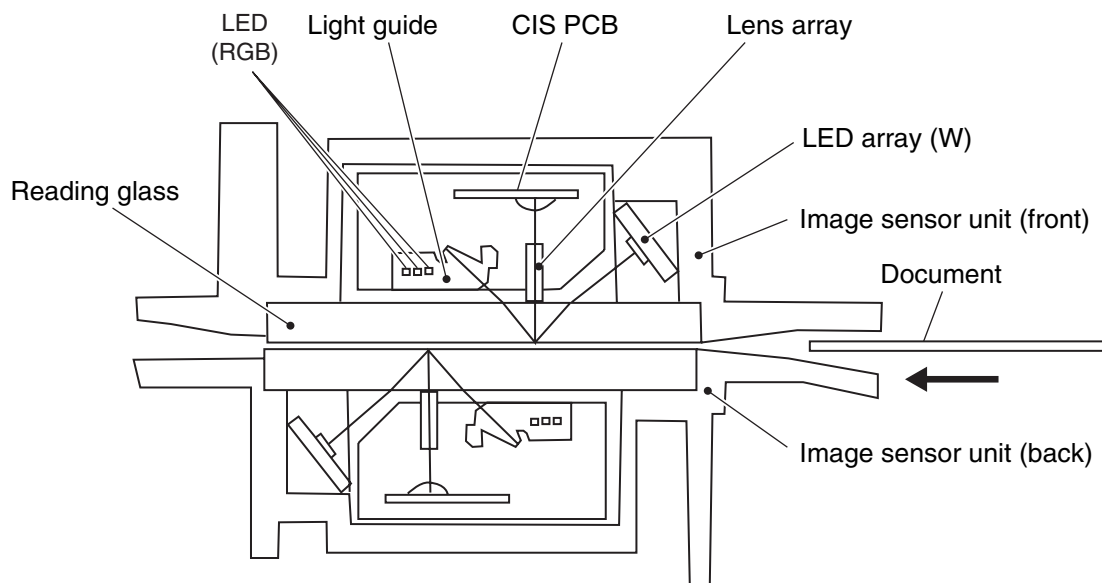

Figure 2-201
Figure 2-201 shows the sectional view of the image reading section. The image sensor unit is comprised of a CIS PCB, lens array, light guide, LEDs (RGB), LED array (W), and a case. The LEDs (RGB) (one of each color) are mounted on the PCB. They serve to illuminate the documents that pass through the light guide. In addition to the LEDs (RGB), the CR-180 also incorporates a white LED array (W).